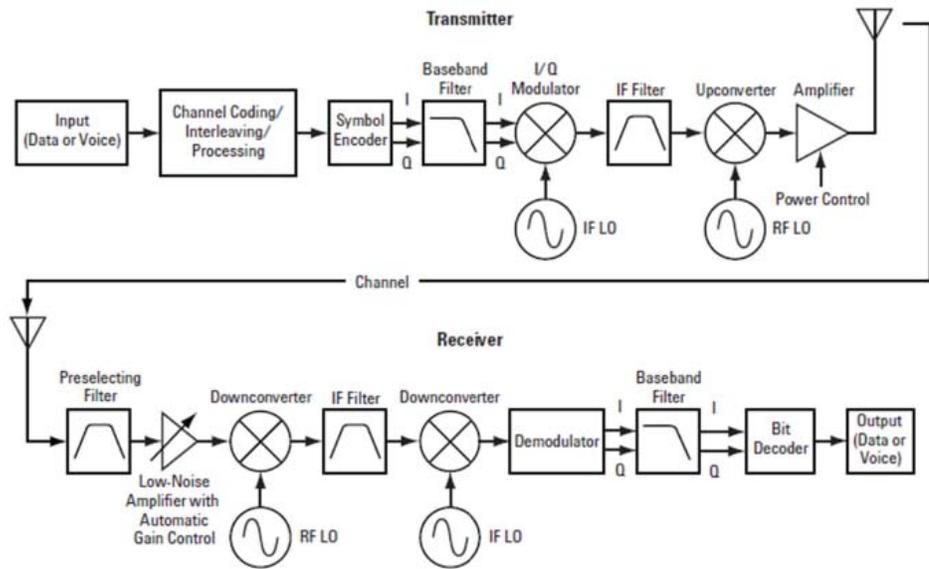

Figure 2. Block diagram of a digital radio system
Figure 2 is a typical communication system block diagram. Using an active probe with a network (NA), spectrum (SA), or signal source analyzer (SSA) you can measure at any RF, baseband, LO path, and DC path to check the signal condition (i.e. spurious signals, harmonics, phase noise, signal level, etc.). Without the probe, you either need to determine the possible root cause based on a functional test measurement or isolate specific components for verification. *“Wireless Test Solutions Application Note 1313” literature number 5989-3578E and “Testing and Troubleshooting Digital RF Communications Receiver Designs Applications Note 1314” literature number 5968-3579E, discuss digital testing and troubleshooting in more detail.*